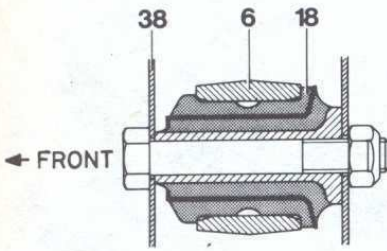

Fig. 11.7 Cross-section of the front upper control arm inner bearing (Sec 9)
- 6 Check the control arm for damage. If the rubber bushes are worn they can be renewed using a suitable piece of metal tubing, a long bolt and nut, and spacers. Dip the new bush in soapy water to assist installation and make sure that the bush is fitted the correct way round, as shown in Fig. 11.7.